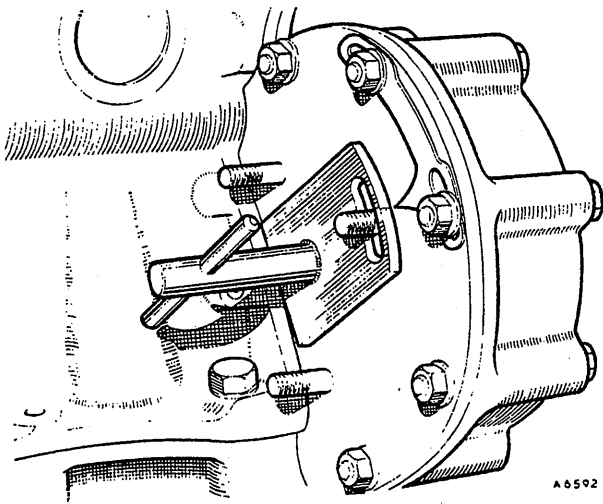

Fig. C.19
- (84) Crank the engine until No. 1 piston is at 16° B.T.D.C. on its compression stroke.
- (85) Insert timing gauge 18G 1052 into the injection pump chain wheel hub from the rear, engaging the splines on the tool with those in the driving flange.
- (86) Apply a gentle clockwise (as seen from the rear of the engine) pressure to the gauge to eliminate backlash and line up the timing pointer on the engine front plate with the mark cut in the timing gauge (see Fig. C.19).
- (87) Fit the injection pump, complete with high-pressure pipes, to the engine. Align the pump scribe mark with the timing pointer and tighten the three securing nuts.
- (88) Connect the throttle and stop controls, ensuring that both the throttle arm and shut-off lever on the pump have their full range of movement.